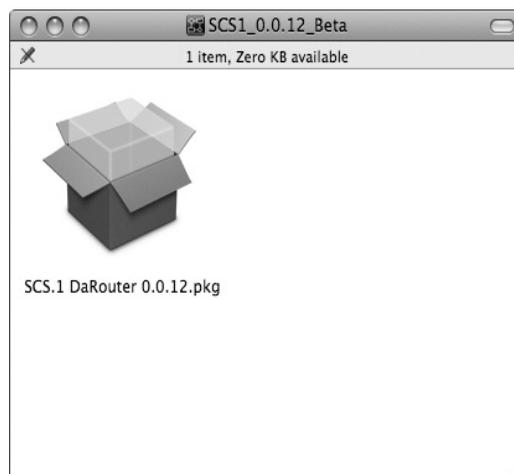

Figure 4.17
2. Double click the *DaRouter.pkg* file to start the installer. (Figure 4.17)